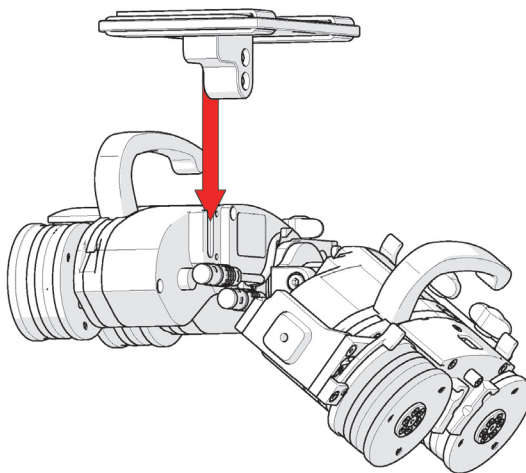

Figure 2-134 Pivot and insert dovetail nut
1. Allow the SteerROVER scanner to pivot exposing the inside of the left drive module, and then slide the dovetail nuts of the backpack into the accessory dovetail groove (see Figure 2-134 on page 149).